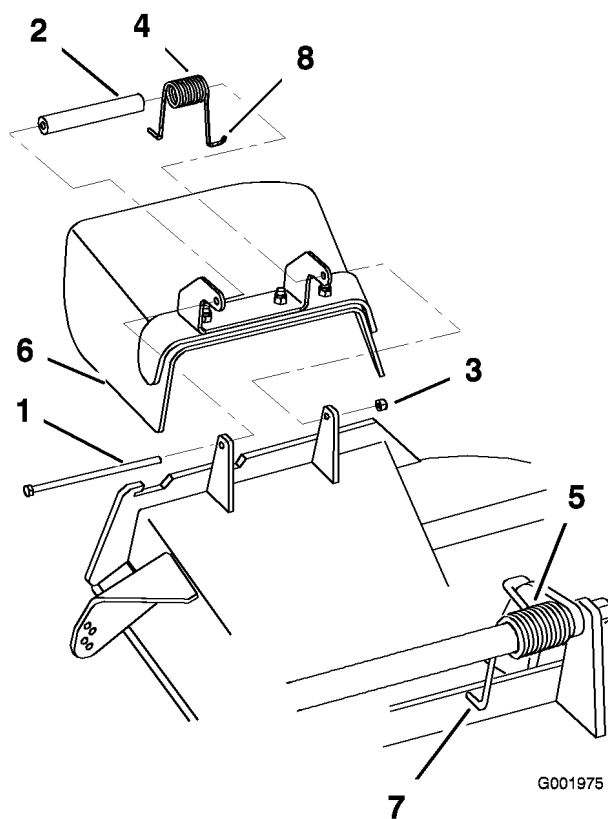

Figure 67
1. Remove the locknut, bolt, spring and spacer holding the deflector to the pivot brackets (Figure 67). Remove damaged or worn grass deflector.
Note: Make sure the L end of spring is installed behind deck edge before installing the bolt as shown in Figure 67.
3. Install bolt and nut. Place the J hook end of spring around grass deflector (Figure 67).